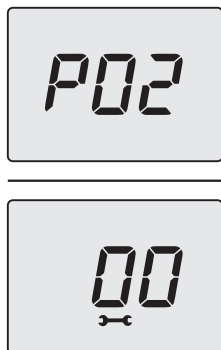

Fig. 9.5
- Press the 12 key for 1 second (Fig. 9.1) to enter the selected parameter. The display will show the following (Fig. 9.5).